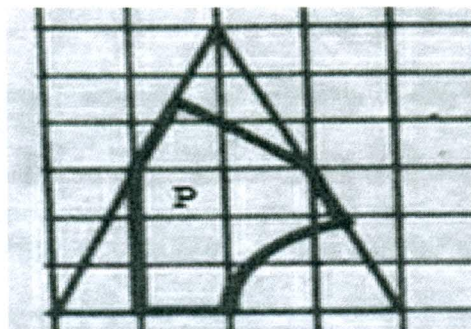

Fig.1
12. a) Draw the orthographic projection of the cone shown in fig.1 [3]
Each square in the above Fig.1 is of 10mm side.